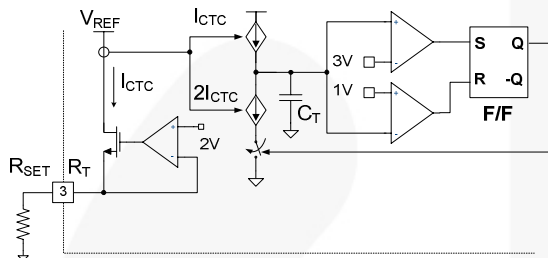

Figure 17. Current Controlled Oscillator
**1. Internal Oscillator:** FSFA2100 employs a current-controlled oscillator as shown in Figure 17. Internally, the voltage of the  $R_T$  pin is regulated at 2V and the charging/discharging current for the oscillator capacitor  $C_T$  is determined by the current flowing out of the  $R_T$  pin ( $I_{CTC}$ ). When the  $R_T$  pin is pulled down to the ground with a resistor  $R_{SET}$ , the switching frequency is fixed as: